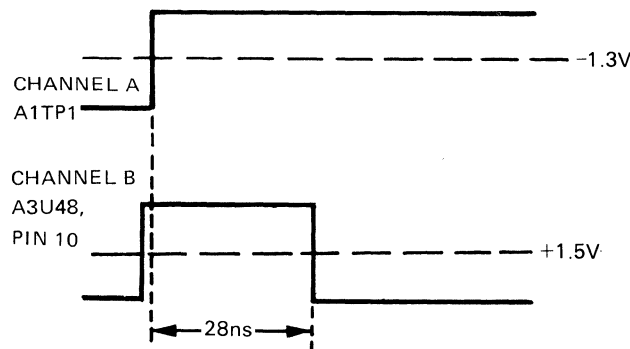

Figure 5-11. Count Adjust Waveform
- q. Adjust A3C28 (COUNT) for 28 ns ± 0.5 ns between rising edge of channel A, A1TP1, and falling edge of channel B (A3TP4 or A3U48, pin 10). See figure 5-11.